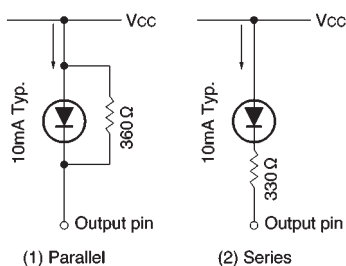

Fig. 3
(Fig. 3 (1)) or in series (Fig. 3 (2)) with the LED. If a resistor is connected in series with the LED, the LED current will change if the supply voltage fluctuates.